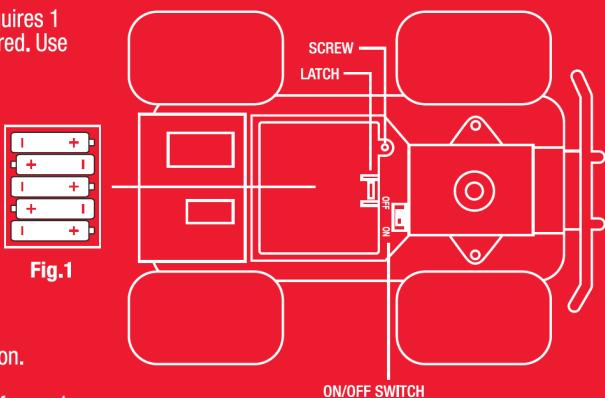

Fig.1
- Pull the latch on the door to the left and lift up to access the battery compartment. Insert 5 "AA" batteries while observing the correct polarity (Fig.1).
- Batteries are to be inserted with the correct polarity (see Fig.1 and Fig.2 above).